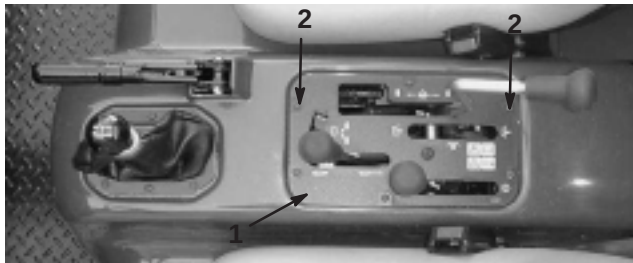

Figure 14
1. Remove the front and rear screws securing the right side of the dash plate to the center console on the Workman vehicle (Fig. 14).